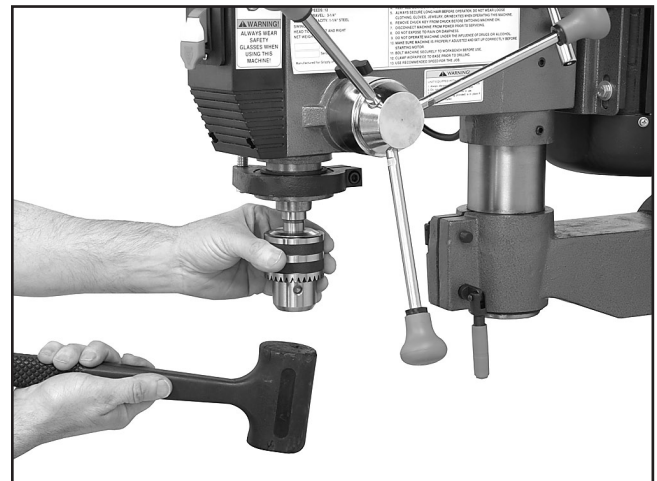

Figure 16. Seating arbor and chuck into spindle.
5. Once the arbor has seated into the spindle completely, tap the chuck with a rubber mallet, as shown in **Figure 16**.